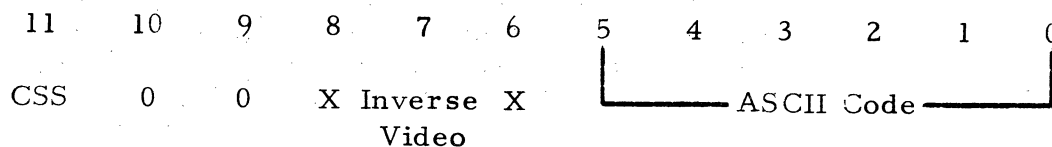

Figure 6 - Alphanumeric Color Set Select
Alphanumeric (1) - The VDG has an internal character generator ROM which accepts a six bit ASCII code, D0-D5. This mode can display 512 characters in a 32 characters per line by 16 line format. The characters are displayed as a 5x7 character matrix in an 8x12 dot matrix. The color set select is controlled by bit D11, and the inverse video is controlled by bit D7 (See Figure 6).